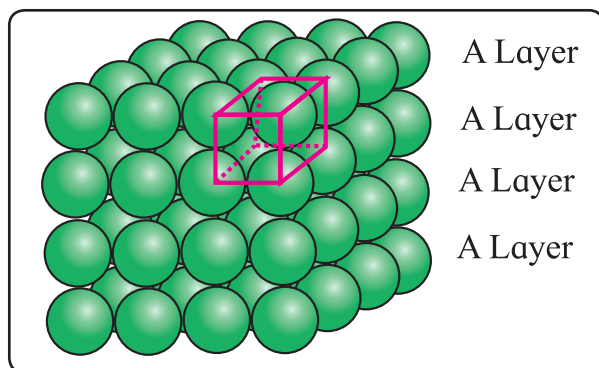

Fig. 1.4 : Stacking of square closed packed layers
i. Stacking of square close packed layers: Stacking of square close packed layers generates a three dimensional simple cubic structure. Here, the second layer is placed over the first layer so as to have its spheres exactly above those of the first layer (Fig. 1.4). Subsequent square close packed layers are placed one above the other in the same manner. In this arrangement, spheres of all the layers are perfectly aligned horizontally as well as vertically. Hence, all the layers are alike, and are labelled as 'A' layers. This arrangement of layers is described as 'AAAA...' type. The
structure that results on stacking square close packed layers is **simple cubic**. Its unit cell is the **primitive cubic unit cell** (Fig. 1.4).